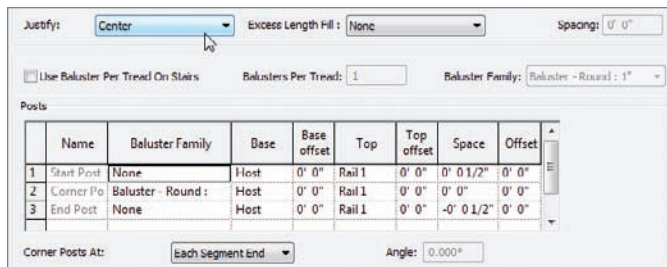

FIGURE 10.25 Configuring the railing for the landing
14. In the Posts field, change the Start and End Post to None (as shown in Figure 10.25).
15. Also, just above the Posts field, change the Justify option to Center (again, see Figure 10.25).